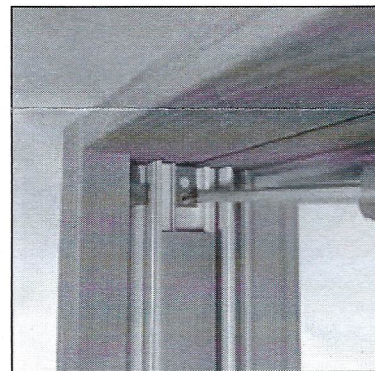

Figure 15
3. Install a #7 x 7/8" Phillips head screw, tighten until seated. See figure 15. **Skip this step if product was produced prior to 10/22/2007.**